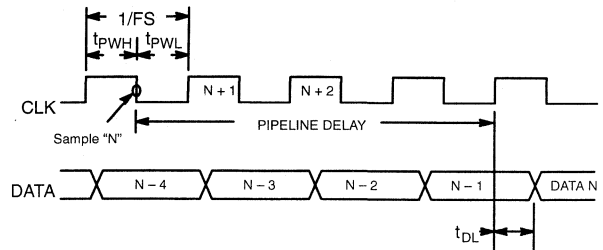

Figure 6. Data Available Timing
Clock Timing (See Figure 6.) ⁷
A full conversion (sampling V_{IN} , converting MSB & LSB, and performing any error correction) requires 3 1/2 clock cycles to complete (see Figure 6.) The pipelined architecture allows the chip to maintain a one conversion per cycle sample rate. Digital logic combines the MSB and LSB data and performs error correction to produce 8-bit output codes.
For systems that are battery powered, the MP8776 has a power down feature to help extend battery life. When the voltage at the V_{RT} pin drops below 0.4 V, the chip goes into power down mode. In this state, conversions are halted, the outputs are 3-stated and I_{DD} drops to less than 100 μA . Then, when the voltage at the V_{RT} pin rises above 0.9 V, the chip will power up. Note that after power up, four clock cycles are required to get valid data at the digital outputs (see Figure 6.). One way to achieve power down is to disconnect or disable the buffer/amp driving V_{RT} , and let the internal reference resistance pull V_{RT} down. Remember, any bypass capacitors at V_{RT} will increase the time for V_{RT} to drop below 0.4 V.
Refer to Figure 6. for details on the data availability timing. The digital outputs should not drive long wires or buses. The capacitive coupling and reflections will contribute noise to the conversion. The output enable pin (OE) should not be left unconnected. If it is not controlled by an active signal, it must be tied to ground.